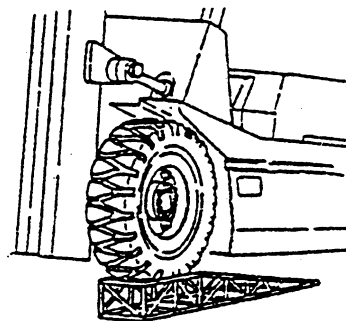

Fig. 8-9
(1) Take apart the fork bracket from the inner mast, then replace the main roller following the way as 8.2.3.
(2) Park the truck on the flat ground and lift up the front-wheel 250-300 mm away from the ground. (Fig. 8-9)
(3) Pull parking brake lever fully, and use a wedge to make back-wheel stationary.
(4) Take apart bolts which fastened lift cylinders and the inner mast. Hang up the inner mast without losing shims of the piston rod heads carefully.
(5) Take apart bolts which jointed lift cylinders and the bottom of outer mast and take apart the oil-pipe between two lift cylinders without losing the nipple.
(6) Main rollers on the upper outer mast will be showed on the top of the inner mast as soon as main rollers were taken apart from bottom of the inner mast after laying down the inner mast.
(7) Replace main rollers
(8) Hang up the inner mast and let all rollers in the inner mast.
(9) Assemble the lift cylinder and the lift bracket as the procedures contrary to disassembly.